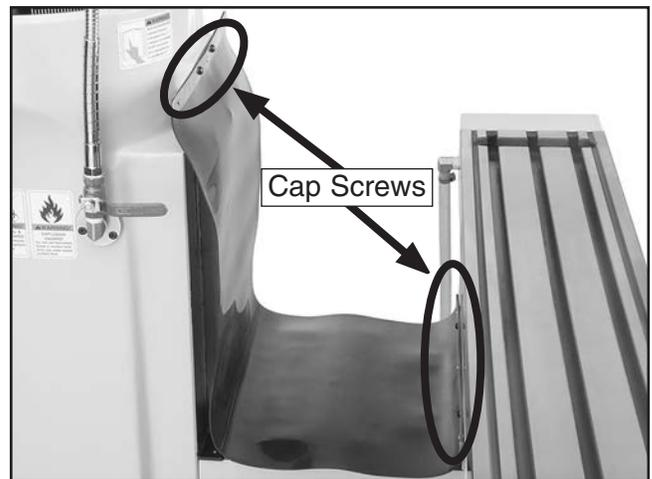

Figure 14. Rear way cover installed.
5. Remove the four button-head cap screws shown in **Figure 14** from the column and the rear of the table, position the rear way cover in place, then secure it with the cap screws.